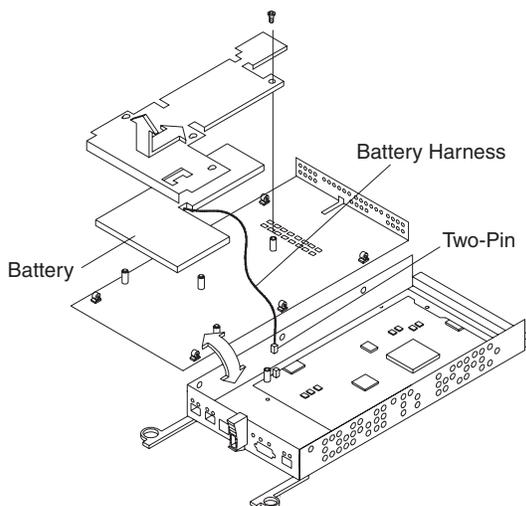

Figure 73. Removing the controller battery
8. Carefully flip over the RAID controller bottom panel. Disconnect the battery harness on the battery from the two-pin connector on the controller board, as shown in Figure 73.
11. Carefully flip over the RAID controller bottom panel. Disconnect the battery harness on the battery from the two-pin connector on the controller board as shown in Figure 73 on page 90.